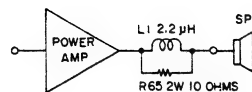
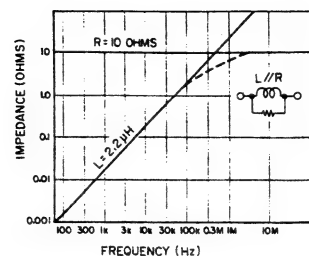

Fig. 17
Fig. 18
9) L1 and R65 Operation (Refer to Fig. 17 to 19)
As shown in Fig. 17, most amplifiers have an inductance or a resistor between the output and the speaker. The inclusion has several advantages. Considering the negative effect when L and R is inputted, we find that the power amplifier output impedance increases higher the frequency in the case of inductance. This negative effect is shown in Fig. 18. However, as can be seen in the figure, the effect of the inductance is merely 0.014 ohm at 1 kHz and 1.4 ohm even at 100 kHz, and is hardly a problem.